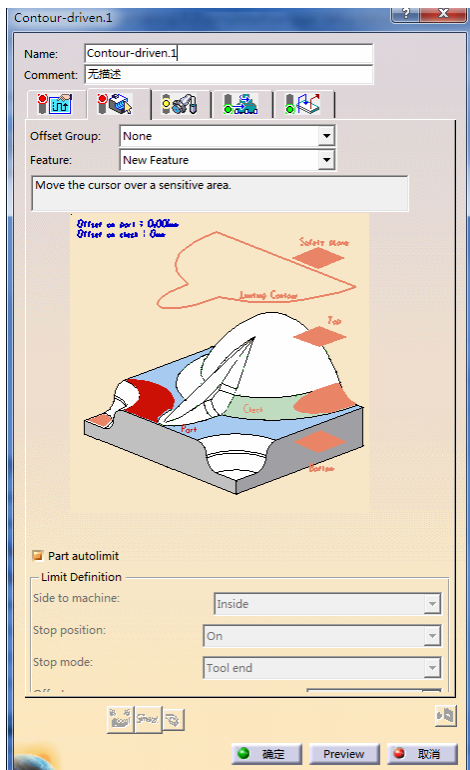

图 3-158 “Contour-driven.1”对话框 (2)
在特征树中选择“Advanced Finishing.2”节点, 选择下拉菜单“插入”→“Machining Operations”→“Contour driven”命令, 或者单击“Machining Operations”工具栏上的 Contour-driven 按钮, 弹出“Contour-driven.1”对话框 (2), 如图 3-158 所示。